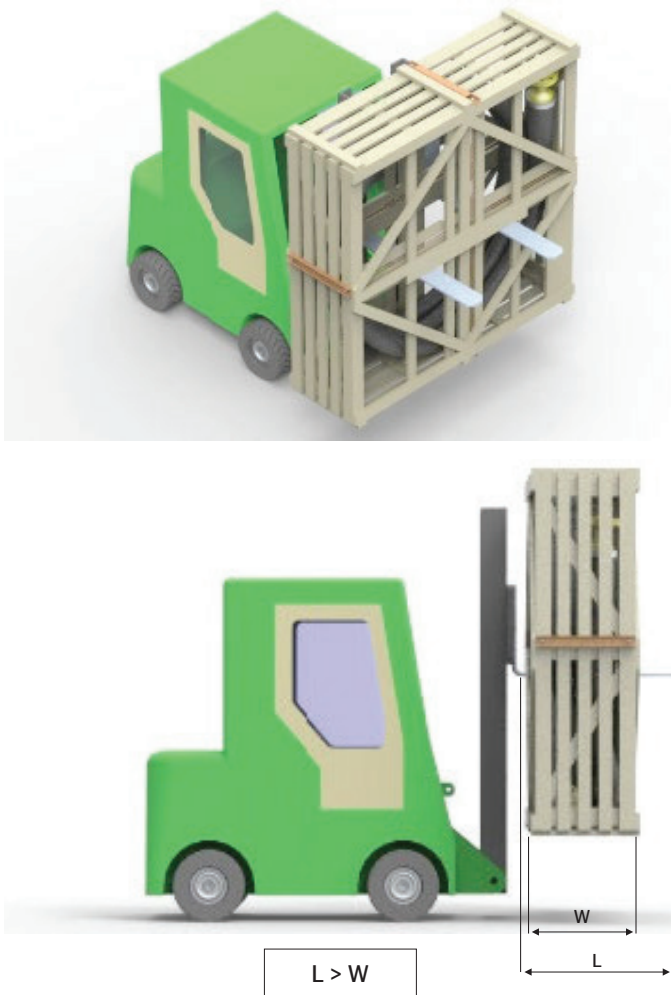

Fig. 9 Lifting wooden crate by forklift
- Using a forklift truck: lift up the crate under the horizontal stiffeners in the center of the crate. The forklift's forks must be longer than the width of crate ( $L > W$ ), see Fig. 9.